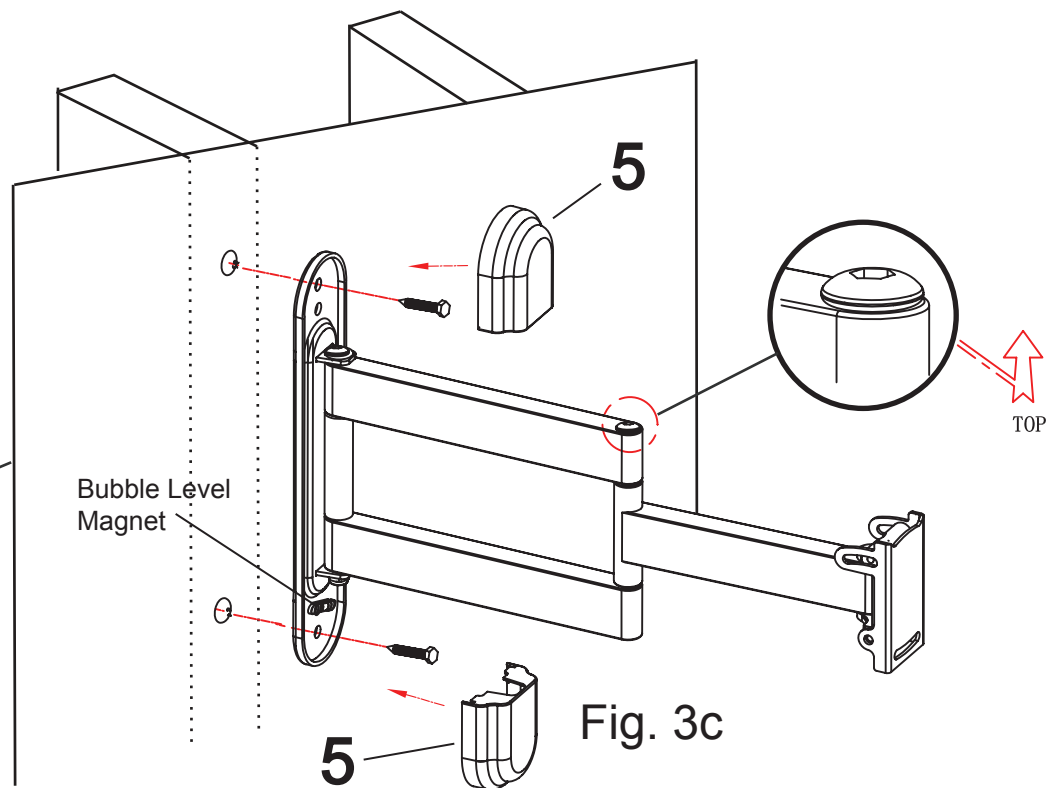

Fig. 3c
4. Use the Socket tool (Q), the two long bolts (A), and Washers (C), to attach the wall mount to the wall. Do not use wall anchors in wood stud walls.
6. Press the covers (5) on to each end of the Wall plate (Fig. 3c).